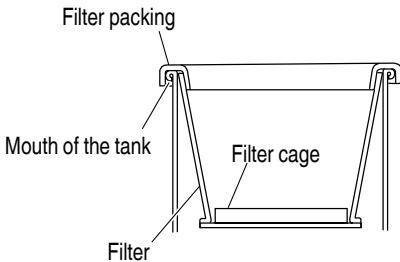

Fig. 15
- (3) Check that the filter packing is put on the mouth of the tank. **(Fig. 15)**
- (4) Check that the filter cage is on the bottom of the filter. **(Fig. 15)**